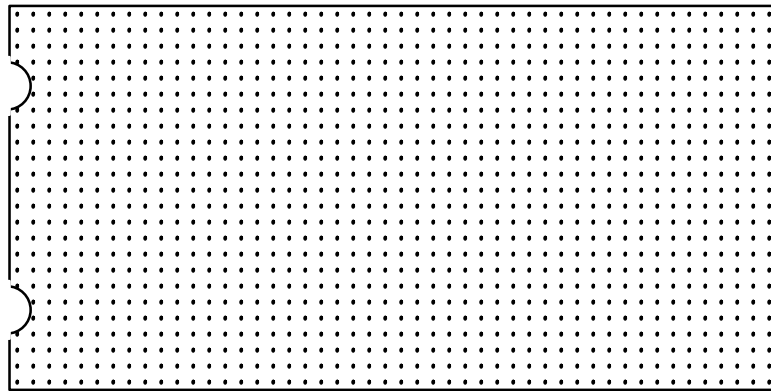

Figure 12
These instructions describe cutting half-round notches in the pieces of pegboard, opposite where the ties will go, so that the pegboard will lie mostly flat when stacked (see figure 12). This is not absolutely necessary, but doing this work in advance means you need to do less work (inserting fillers) each time you stack the pegboard to prevent it from warping.
1. Create a template for the hole saw on the drill press. The template should hold a piece of pegboard so the center drill of the saw should touch the edge of the pegboard at a point midway between the 5th and 6th holes from each corner, so it will cut a notch as shown in figure 12.